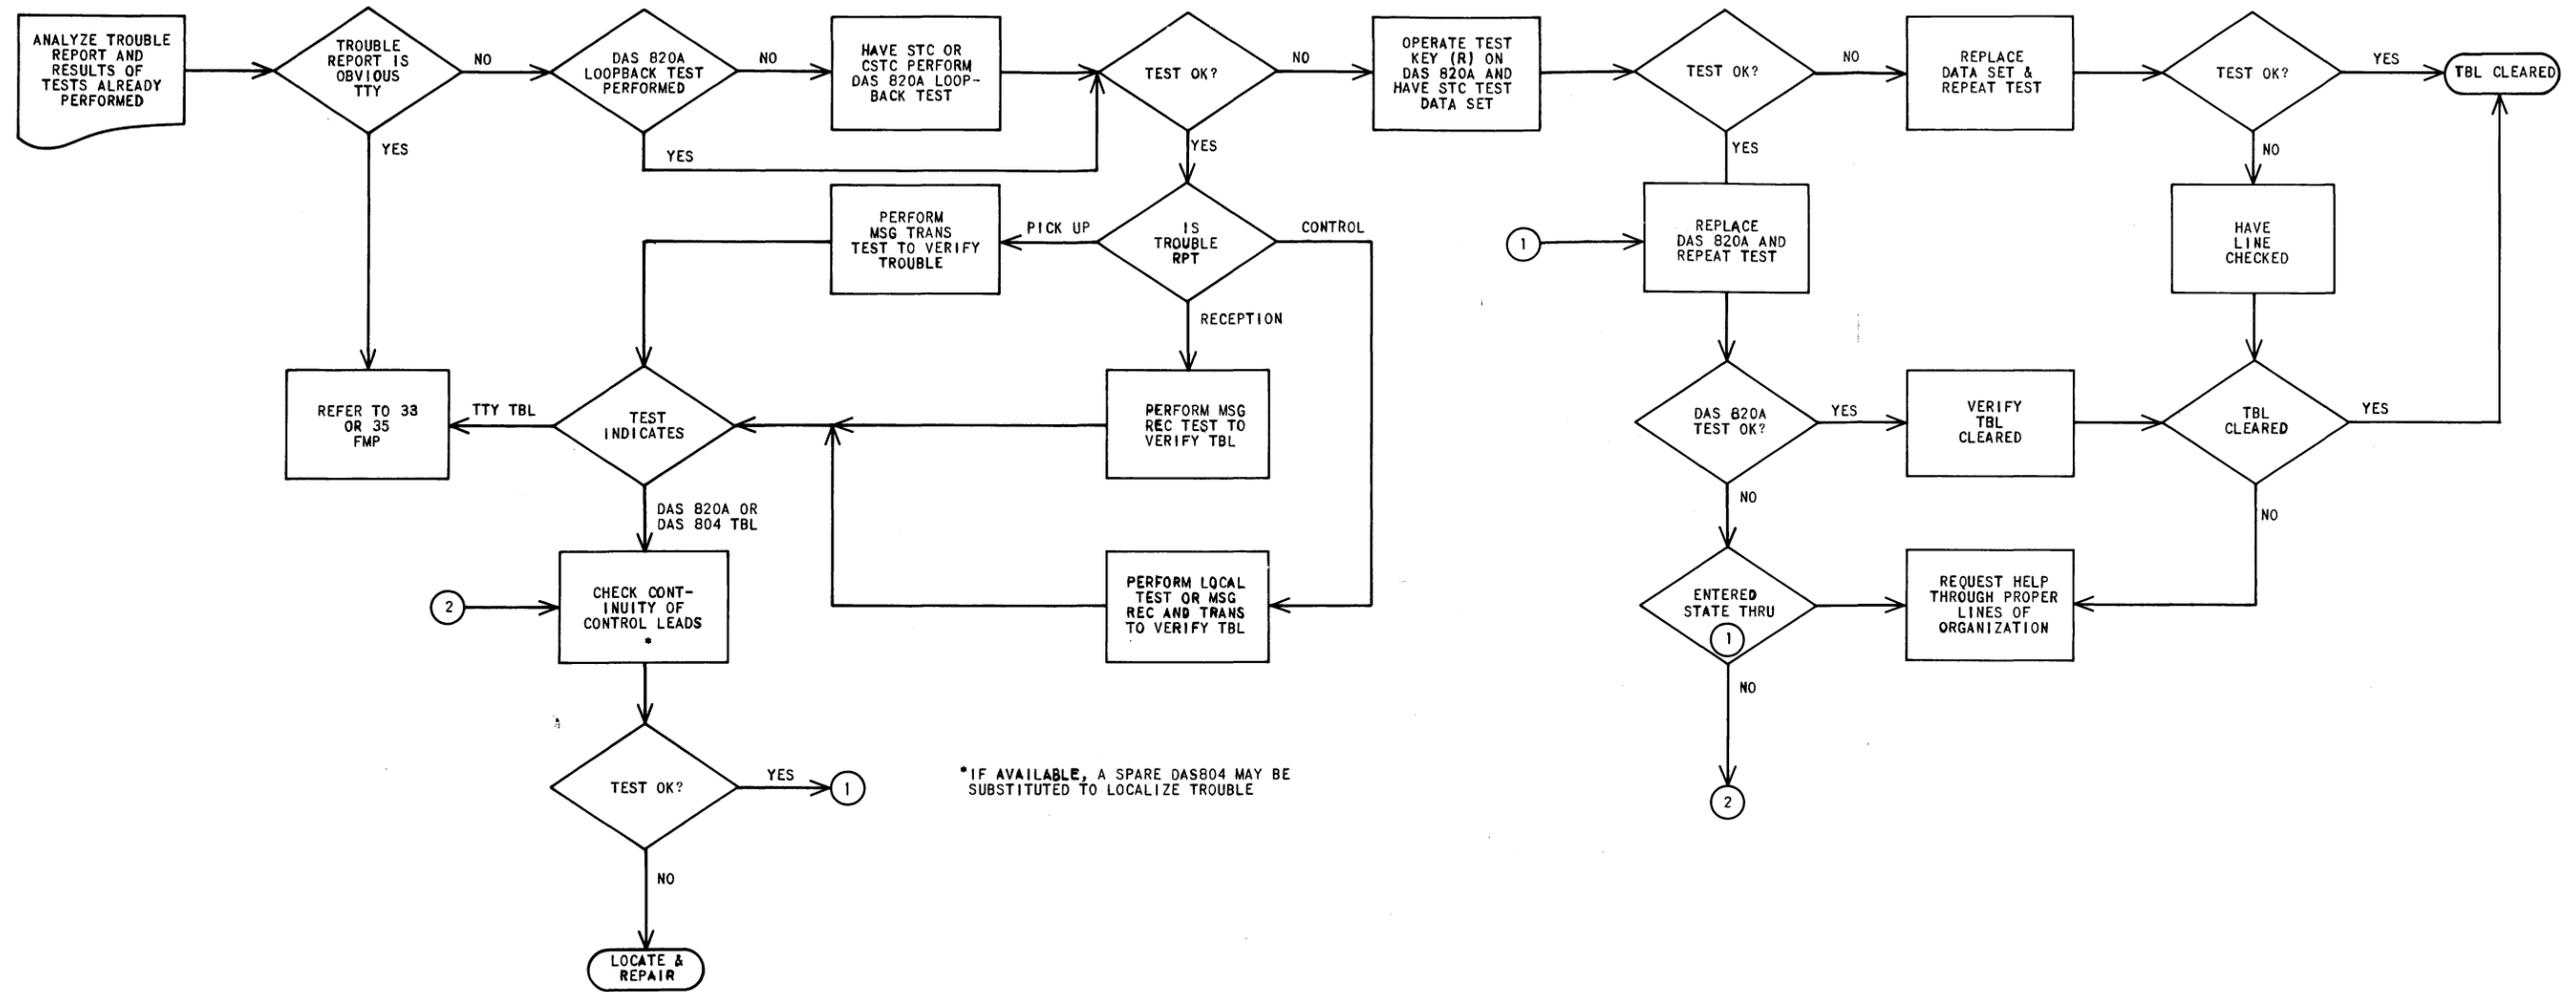

Fig. 6—Flow Chart, Maintenance Test Procedure
4.01 Maintenance of the full-duplex, 100 word per minute data station should be in accordance with the flow chart shown in Fig. 6. This flow chart is recommended for an organized trouble investigation with a minimum amount of time spent in locating the cause of the customer's trouble report.